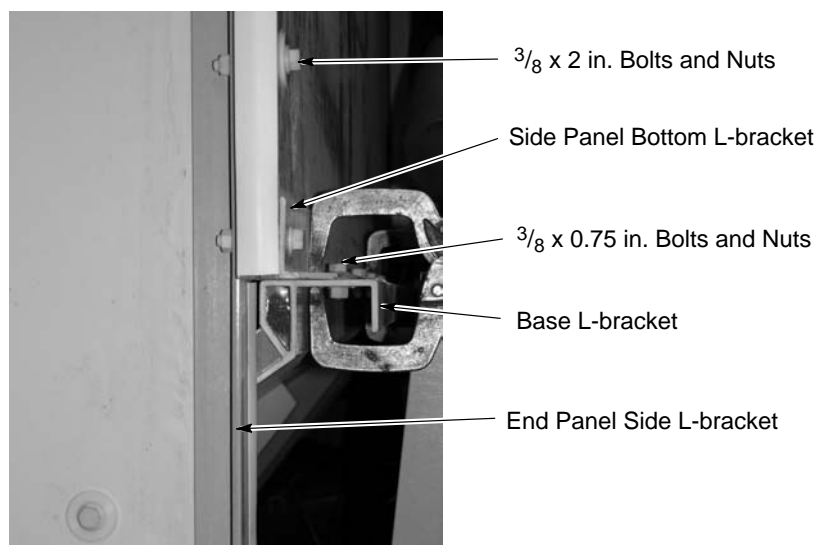

Figure 6 Side Panel Clamping and Bolting
1. Locate the side panels (1). The side panel with the duct opening (2) must be installed with the opening above the transition duct (11) in the base.
2. Position the side wall panels on the base L-brackets (5) and clamp the panels in place as shown in Figure 6. On the inside, make sure the panels are flush with the base panels.
3. Clamp the side wall panels to the end panel side L-brackets (4). Make sure the tops of the side panels and end panels are flush with each other and plumb.
4. With a $\frac{3}{8}$ in. bit, drill through the end panel side L-brackets, using the shoulder bushings in the side panels as guides. Fasten the side panels to the end panels with nylon $\frac{3}{8}$ -16 x 2.00 in. flanged bolts and nuts (7).
5. With a $\frac{3}{8}$ in. bit, drill through the side panel bottom L-brackets and base L-brackets. Fasten the side panels to the base with nylon $\frac{3}{8}$ -16 x 0.75 in. flanged bolts and nuts (6).
6. Square the sides of the keyhole slots (8) with each other and clamp in place using a length of plastic L-bracket (9) as a cross brace. Do not clamp directly to the panels; pad the clamp jaws with a section of L-bracket or flat piece of wood.
8. Measure, cut, and install the unistrut supports (10) removed previously to support the wall sections.